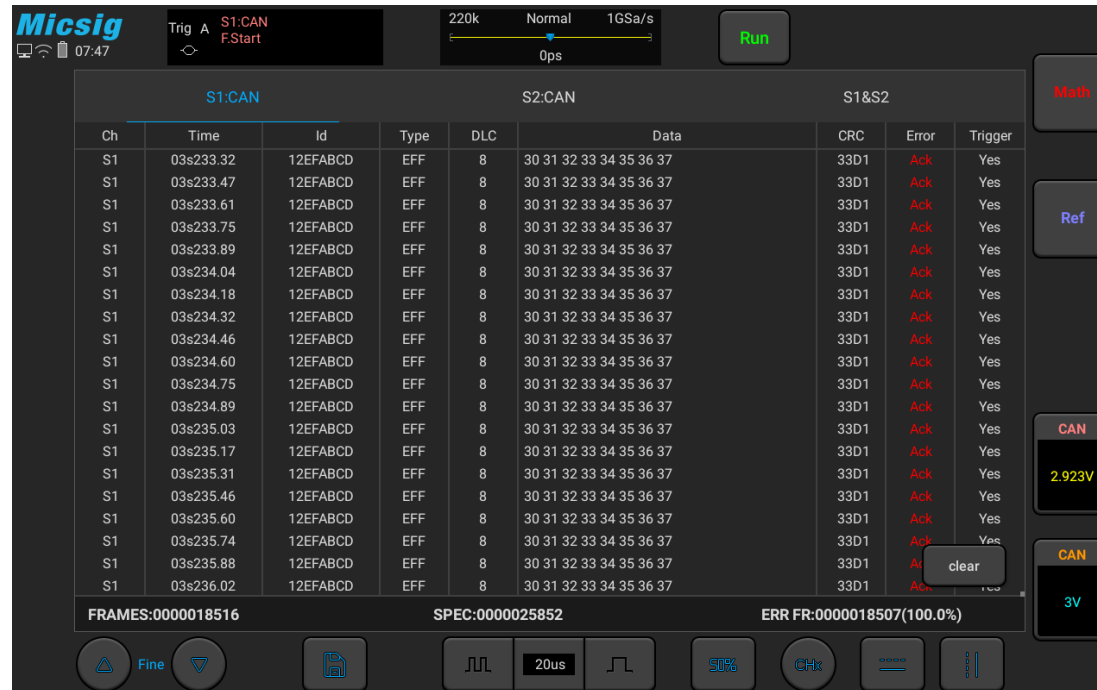

Figure 11-17 CAN Text Interface
**CAN text interface description, as shown in Figure 11-17:**
- (1) “Ch”: bus channel.
- (2) “Time”: Time intervals between the last frames to current frames.
- (3) “ID”: CAN frame ID value displayed in hexadecimal, maximum 29 bits.
- (4) “Type”: Frame type, “SFF” standard data frame, “SRF” standard remote frame, “EFF” extended data frame, “ERF” extended remote frame.
- (5) “DLC”: Number of data bytes sent by this frame. This value can be ignored for remote frames.
- (6) “Data”: Frame data.
- (7) “CRC”: Frame CRC check code.
- (8) “Error”: Response error, bit stuffing error, format error, CRC error.
- (9) “Trigger”: “Yes” means the frame reaches trigger condition.
- (10) “Statistics”: counts the number of occurrences of frame type, data length, status, etc., and the percentage.